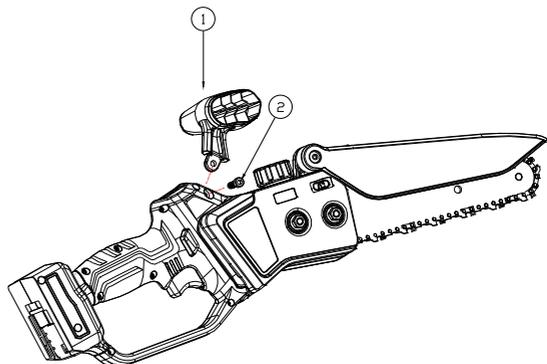

Figure 2
- a) Assemble the particular left hand handle n.1 by fixing it with the particular screw n.2. refer to Figure 2